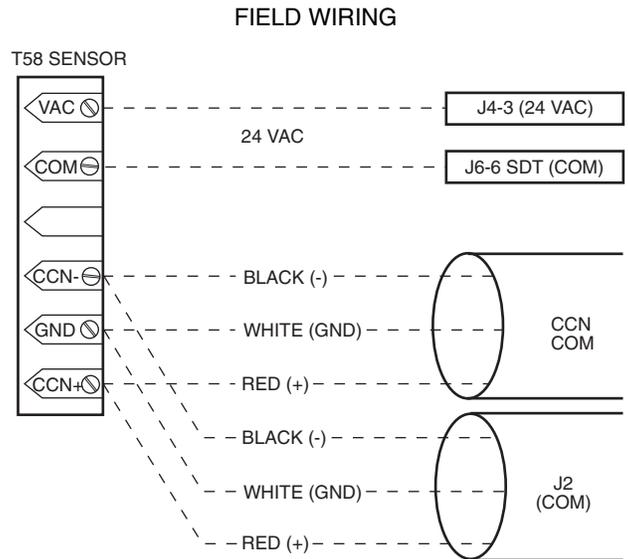

Fig. 4 — T58 Communicating Sensor Typical Wiring (33ZCT58SPT)
- f. Refer to Fig. 4 for 33ZCT58SPT thermostat wiring. Once the T58 sensor is powered up, all of the graphic icons on the LCD display will be energized for a few seconds. The icons will then turn off and the T58 sensor will energize the three-digit numeric display. The value “58” will be displayed for two seconds. After 2 seconds, the LCD will display the default space temperature value.